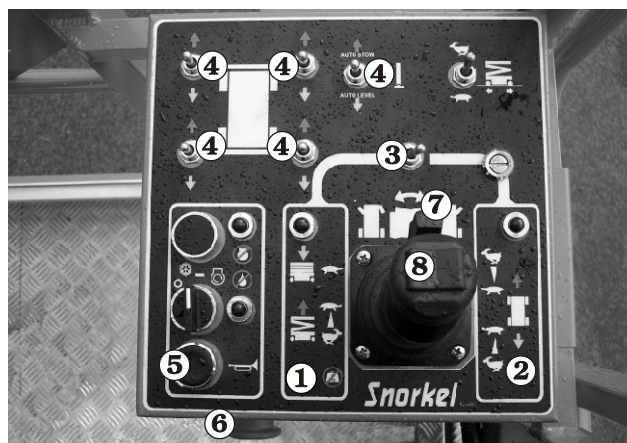

Figure 7.28 - Platform Controls
Check all of the lift , drive ②, steer ③, and stabiliser ④ functions from the platform control box to see that they cause the S3970RT / S3370RT / S2770RT to move the way it should (see Figure 7.28). (for correct operating procedures see the Operation chapter).
Press the operator horn ⑤ (see Figure 7.28) to see that it works.
Pay particular attention to the **Emergency Stop** switch ⑥ to see that it turns the engine off when struck (see Figure 7.28).
Pay particular attention to the **Safety Control ⑦** to see that it deactivates the **Joystick Controller ⑧** when the safety control ⑦ is released (see Figure 7.28).